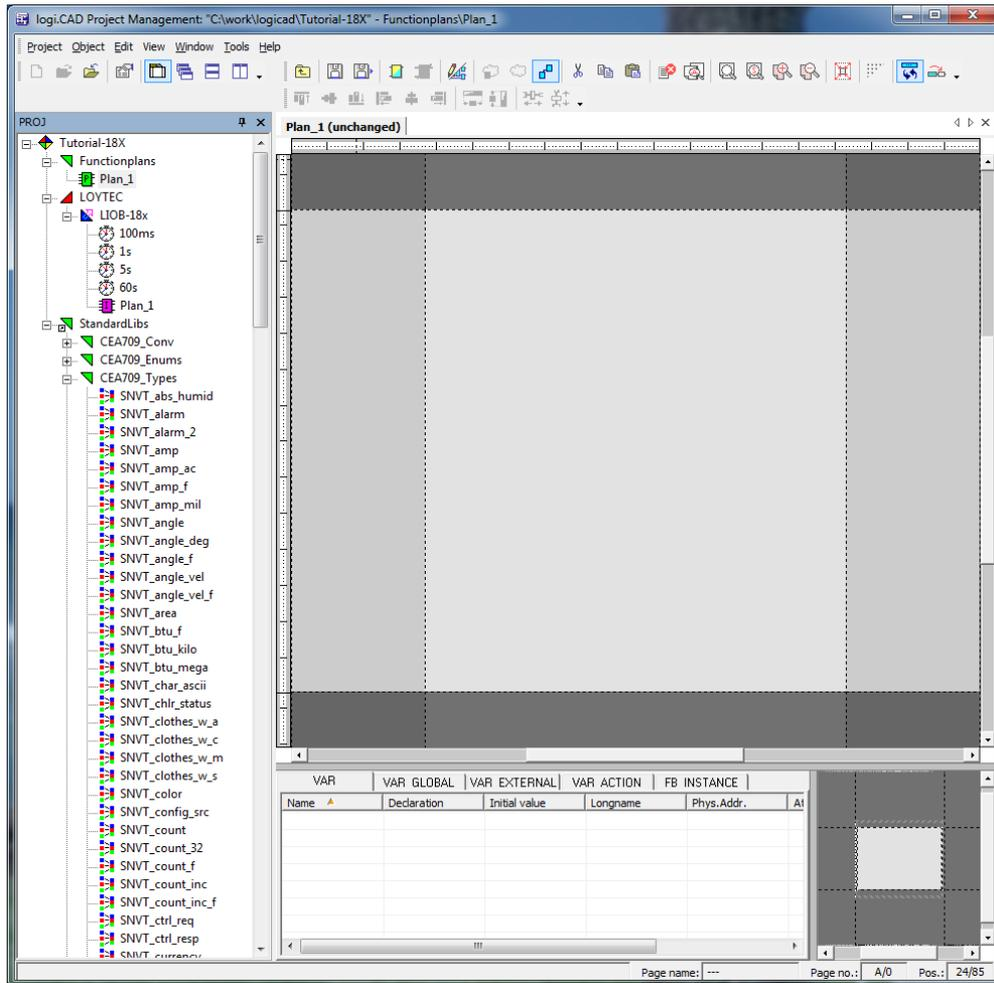

Figure 13: Edit Plan_1
7. As shown in Figure 13 below, expand the tree element **Functionplans** and double click **Plan_1** in order to start editing the plan.